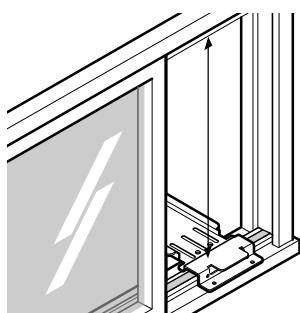

Figure 26
7. Measure height of window opening from top of bracket assembly as shown Fig. 26. Subtract 20-3/4 inches. Mark this measurement on curtain and cut the curtain. (See Figure 26)